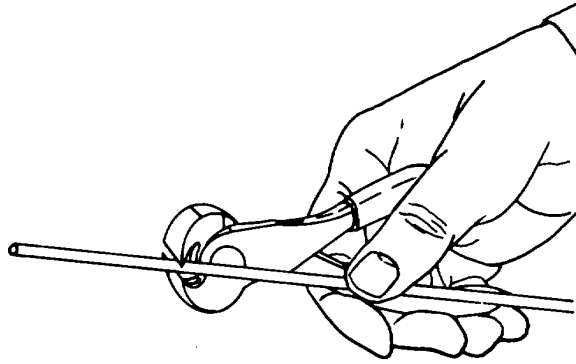
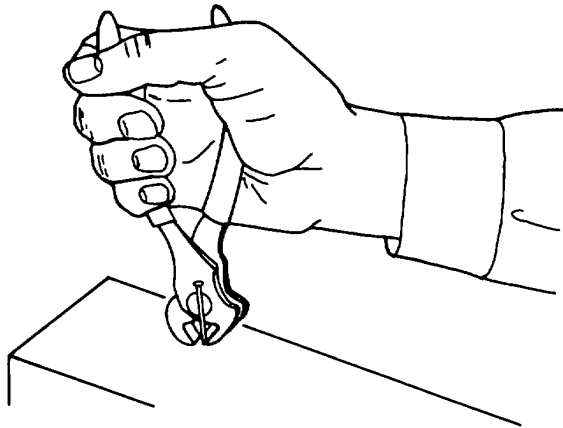

Figure 4-112. Cutting Wire
Figure 4-113. Flush Cutting
*a. Use.* Nippers and pincers, as previously stated, are used to cut wire, bolts, rivets, nails, and other similar items. Figure 4-112 illustrates the technique for cutting wire, and figure 4-113 shows the procedure for cutting a rivet or similar object flush with the surface.